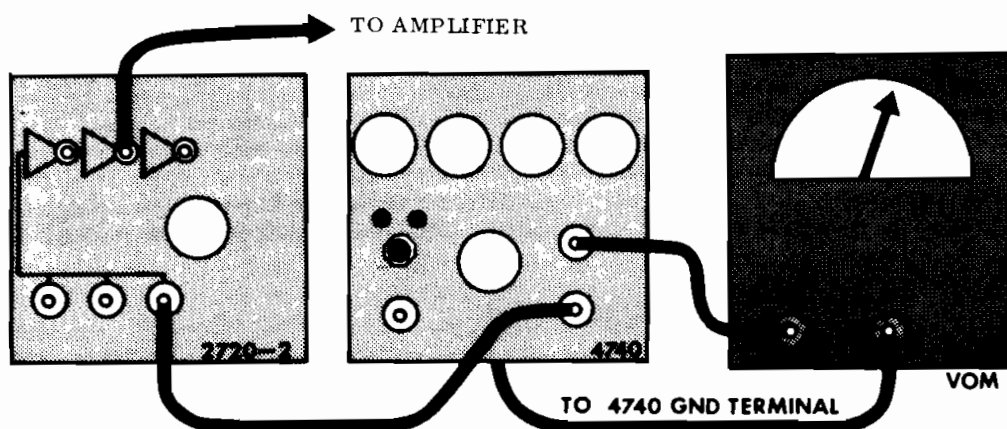

Figure 6
Initial equipment connections should be as shown in figure 6 . Connect a +18v. supply to the ++ power connection on the rear edge of the 4740 circuit board and ground to the ($\frac{\ominus}{\equiv}$) connector. Patch the fixed output of the 4740 (lower right hand pin jack) to one of the control voltage inputs of the VCO. Connect the VOM between the variable output (upper right hand pin jack) and ground and set to a scale on which you can conveniently read 5v. Set the 4740 front panel controls as follows: ATTACK - full clockwise (CW), DECAY - full counter-clockwise (CCW), SUSTAIN - full CW, RELEASE - full CCW, LEVEL - full CW.